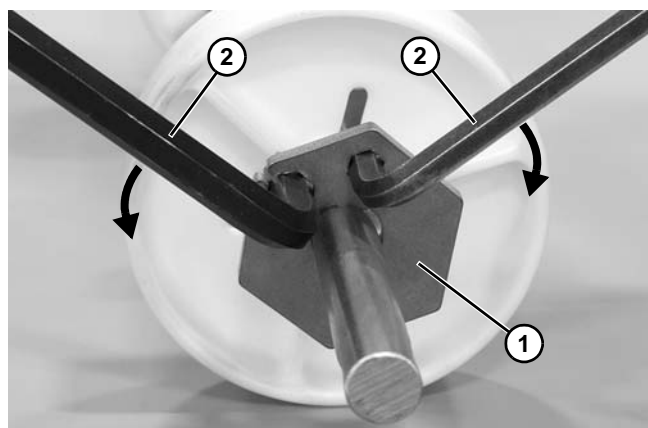

Figure 121
- c. To lock the retainer plate (**Figure 121, item 1**) in place, move the wrenches (**Figure 121, item 2**) away from each other.